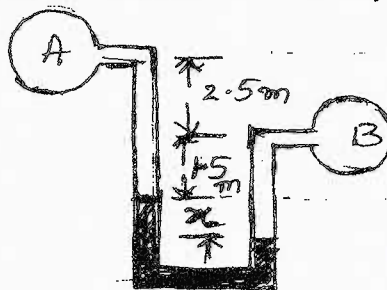

Fig.Q2(c)
- c. Fig.Q2(c) shows a differential manometer connecting two points A and B. Pipe A contains carbon tetrachloride of specific gravity 1.594 under a pressure of  $1.05 \text{ kgf/cm}^2$  and pipe B contains oil of specific gravity 0.8 under a pressure of  $1.75 \text{ kgf/cm}^2$ . If the manometer liquid is mercury, find the difference 'x' between the mercury levels.